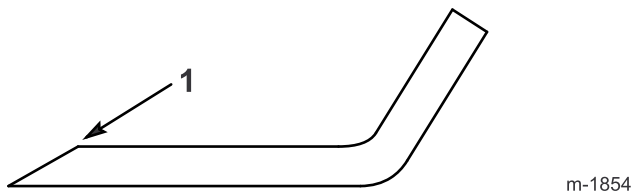

Figure 40
1. Use a file to sharpen the cutting edge at both ends of each blade (Figure 40). Maintain the original angle. The blade retains its balance if you remove the same amount of material from both cutting edges.